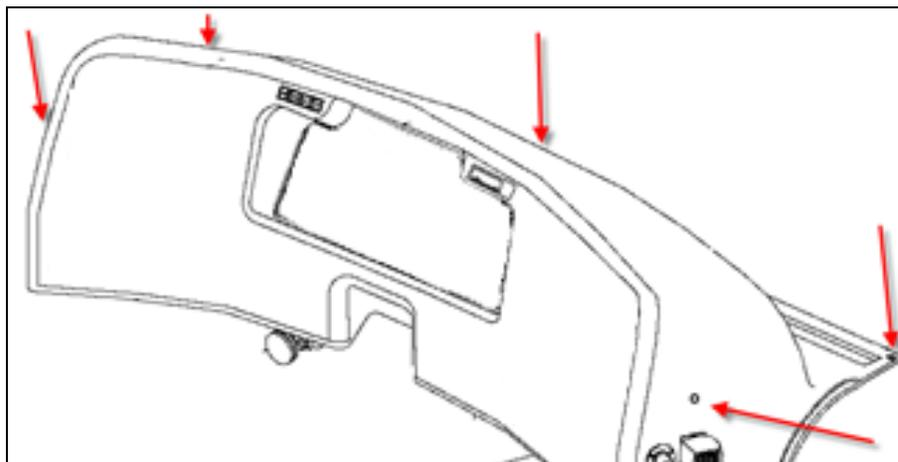

Fig.3 Dash cover retaining screws.
1. Remove the five screws holding the dash cover to gain access to the backside of the CANtrak module (Fig.3).